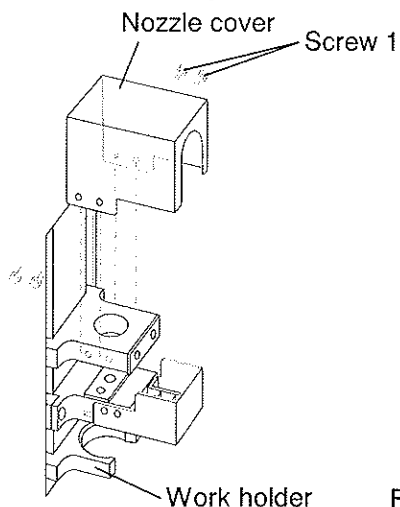

Fig.1
- 1) Turn on Main unit and move the arm toward the table by pressing [\triangleright] key 2 times, and then, lower the work holder by pressing [∇] key (Fig.1).
- 3) Remove the nozzle cover (Fig.1).